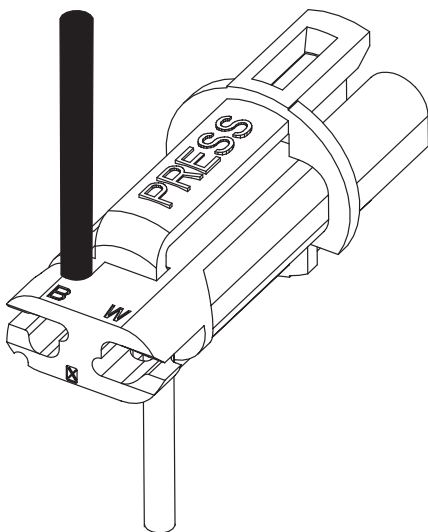

Figure 5
4. Rotate the wire 90°. See Figure 5.